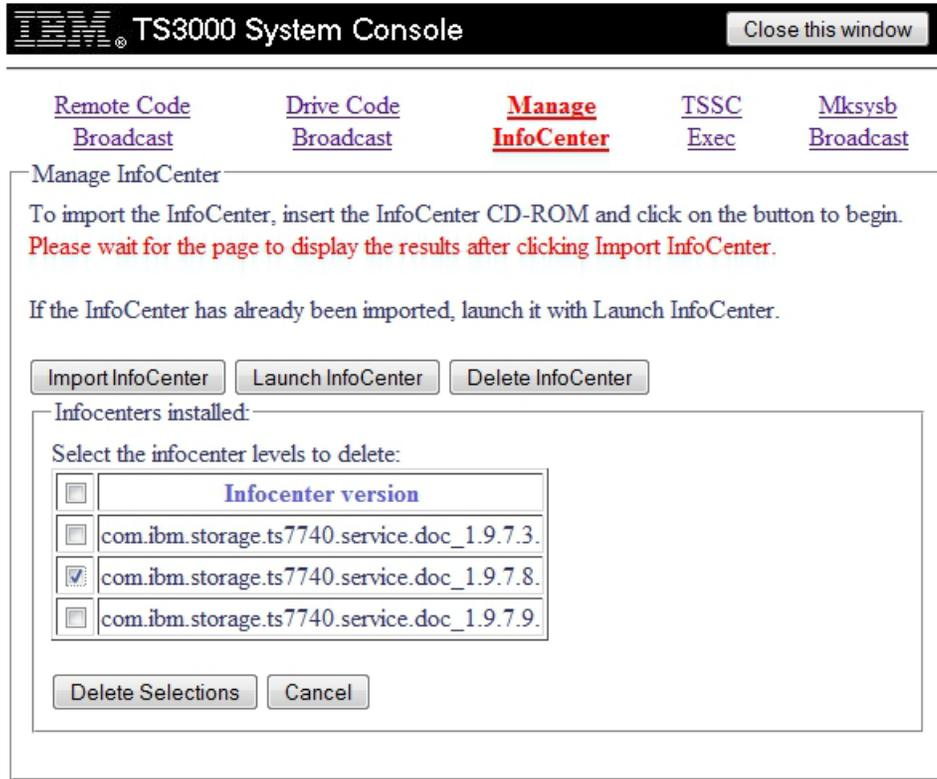

Figure 253. Different InfoCenter levels installed
8. To delete a level of InfoCenter, from Figure 252, click **Delete InfoCenter**. If there is at least one level of InfoCenter installed it will be displayed in a box similar to the one shown in Figure 253 on page 202.